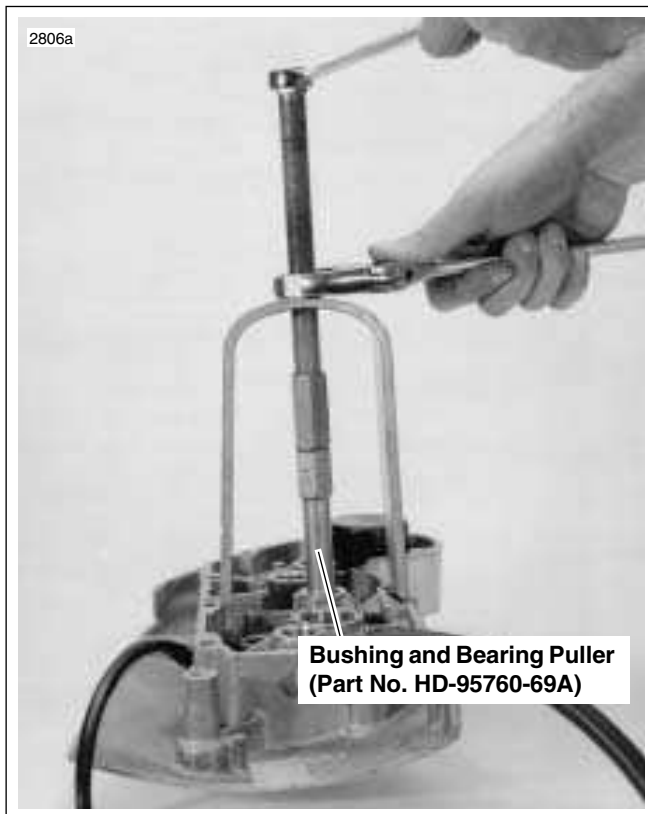

Figure 3-65. Removing Bushing
2. See Figure 3-65. Use a **BUSHING AND BEARING PULLER** (Part No. HD-95760-69A) to remove bushings from gearcase cover and crankcase.